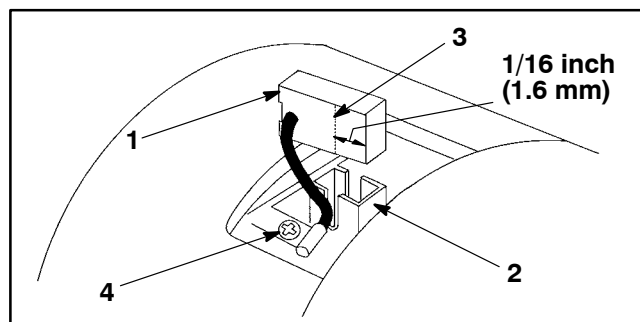

Figure 24
B. If the length from the end of the brush to the wear line is less than 1/16 inch (1.6 mm), replace all four brushes (Fig. 24).